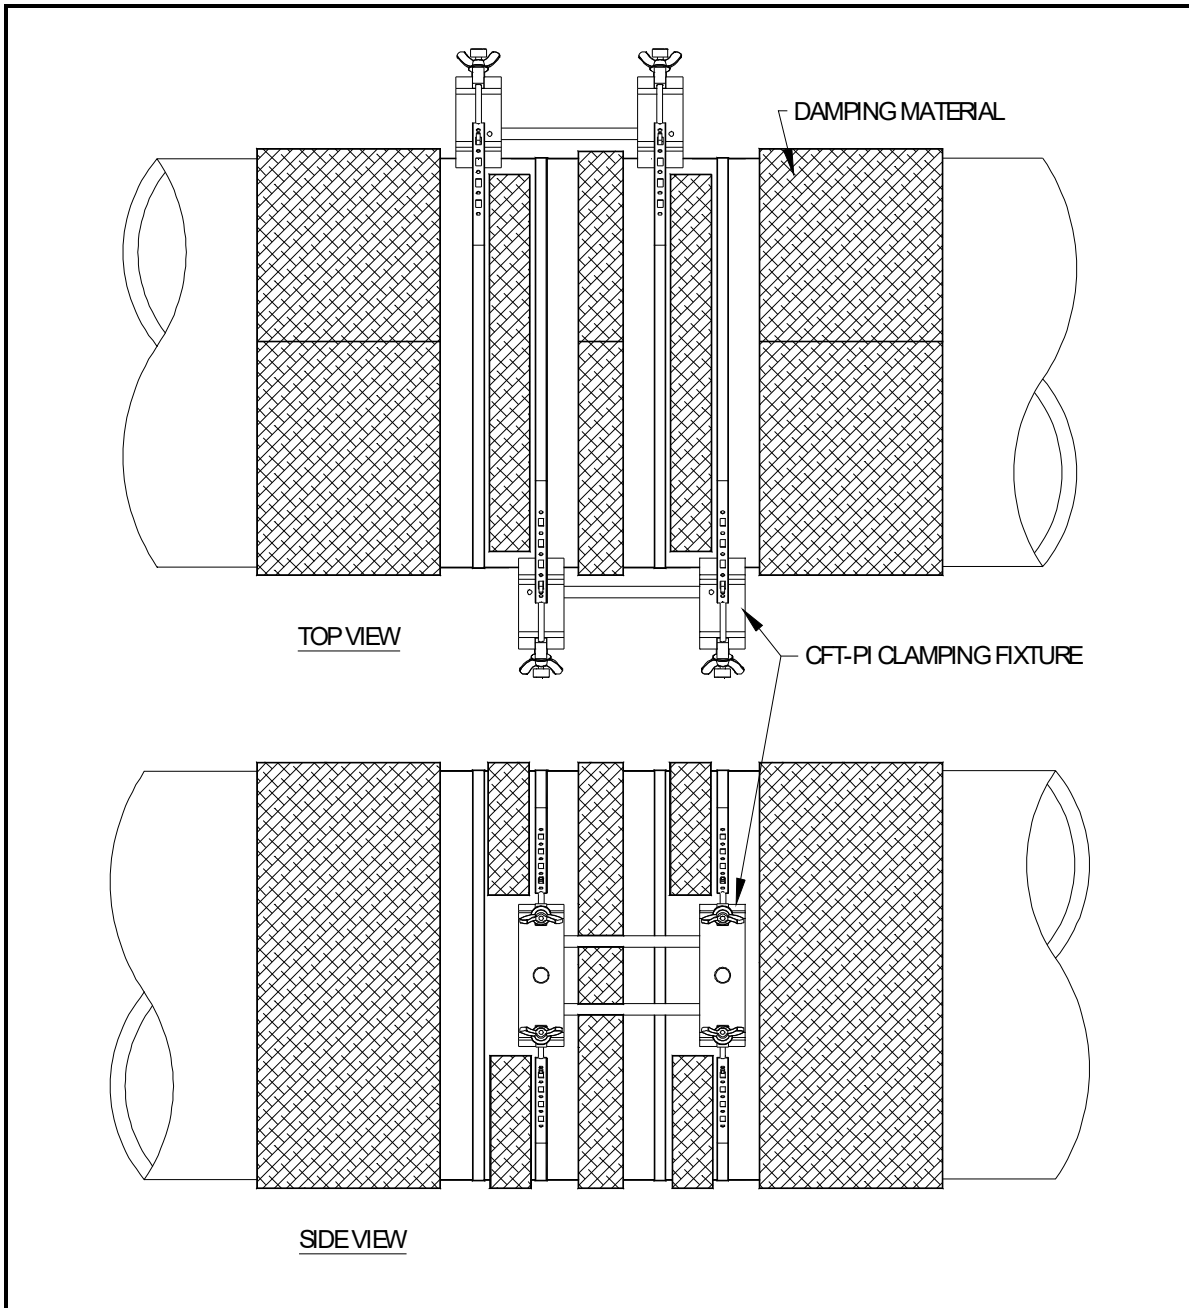
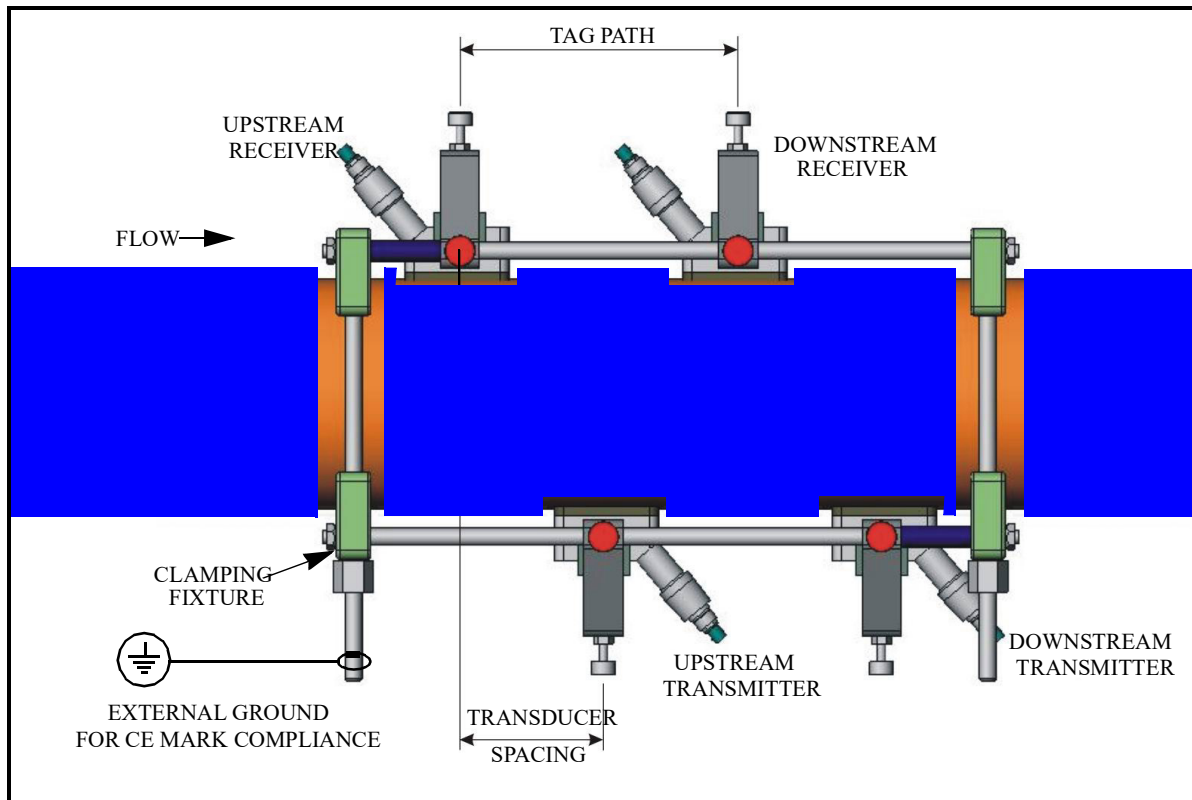

Figure 7: Locating Damping Material with a CFT-PI Clamping Fixture Installed
Figure 14: Typical CFT-V Clamping Fixture / Transducer Setup (top view of pipe)
The surface of the pipe should be covered with damping material. The three pieces of material should be placed as follows: one at each end of the fixture, and the third, cut into smaller pieces, and positioned between the straps or chains supporting the fixture. Use the following instructions and Figure 7 on page 20 as a guide:
7. Cut the third large piece of damping material into strips to fit between the two inside clamps (on opposite sides of the pipe) and between the straps or chains used to mount the clamps (see Figure 7 below).
If a CFT-V clamping fixture is being used, refer to Figure 14 below for transducer orientation and complete the following steps one transducer at a time. If a CFT-PI clamping fixture is installed, refer to Figure 7 on page 20 for transducer orientation and complete the following steps one transducer at a time.
The transducers must be connected so that the flow direction is from the Upstream pair of transducers to the Downstream pair of transducers. A pair of transducers is made up of a Receiver and a Transmitter (see Figure 14 on page 26 for a CFT-V fixture installation or Figure 7 on page 20 for a CFT-PI installation).